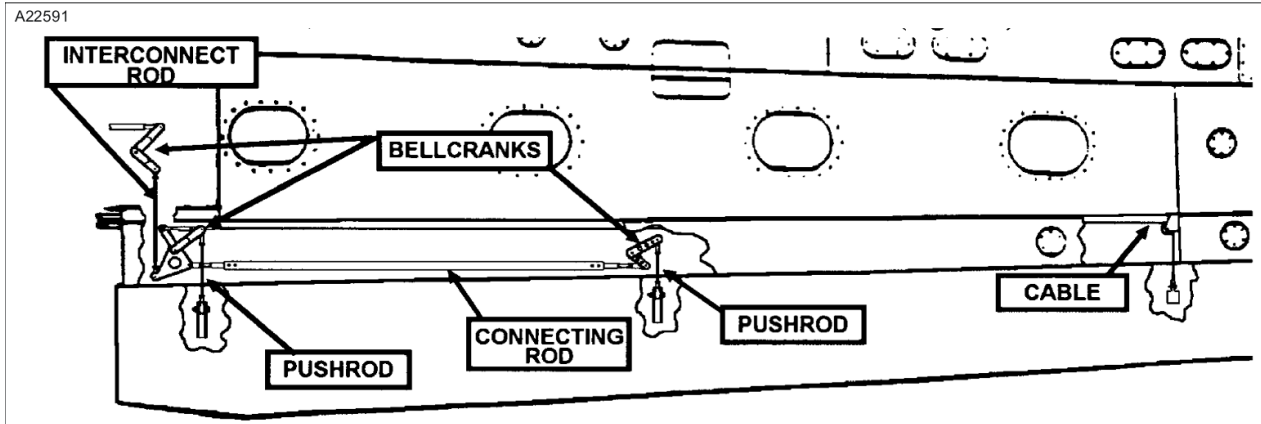
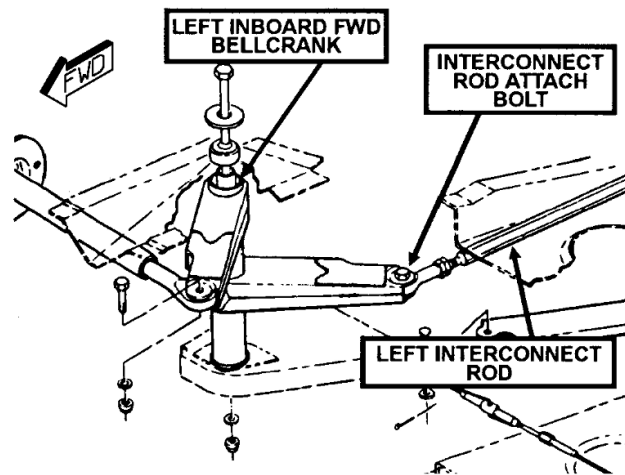

Figure 502
Figure 503
NOTE: The rigging procedures in this guide are for flap systems with adjustable interconnect rods on both sides. (Refer to Figure 502 for location of interconnect rods). 20800001 Thru 20800126 and 208B0001 Thru 208B0042 that have not complied with CAB88-13 have a non-adjustable interconnect rod between the right inboard forward and aft bellcranks. Compliance with CAB88-13 or installation of 2660020-4 interconnect rod assembly is required to perform the following rigging procedures.
- (2) Inspect bell cranks and pulleys (Refer to Figure 502) for worn bearings or deformation. Check bellcrank mounting bolts for proper torque of 35 inch pounds.
- (3) Inspect pushrods, interconnect rods, connecting rods, and rod ends for binding, wear, deformation, and other indications of distress or malfunction. (Refer to Figure 502)
- (4) Inspect flap cables for fraying, frozen pulleys, corrosion, and interference with structure.
- (5) Inspect wire bundle tie-wraps located below the flap cable. The tie-wrap "tails" should be in the 12 o'clock position - rotate tie wraps as required.
- (6) Inspect flap tracks and rollers for corrosion, frozen bearings, flat spots, wear, deformation, or other indications of distress or malfunction.
- (7) Hold flap to prevent it from falling to the end of its track. Remove bolts that attach the left and right interconnect rods to their respective forward inboard bellcranks (Refer to Figure 503). Manually move one flap at a time through its full range of travel to verify free movement.